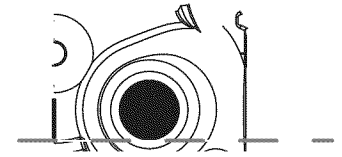
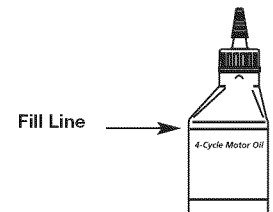

Fig. 18
Fig. 22
5. Look into the oil fill hole, use a flashlight if needed. The oil should be just touching the inner most thread (Fig. 18).
**NOTE:** Use the bottle and spout saved from initial use to measure the correct amount of oil. The top of the label on the bottle measures approximately 3.04 fl.oz. (90 ml) (Fig. 22). Check the level, See Checking the Oil Level. If the level is low, add a small amount of oil and recheck. Do not overfill (Fig. 18).